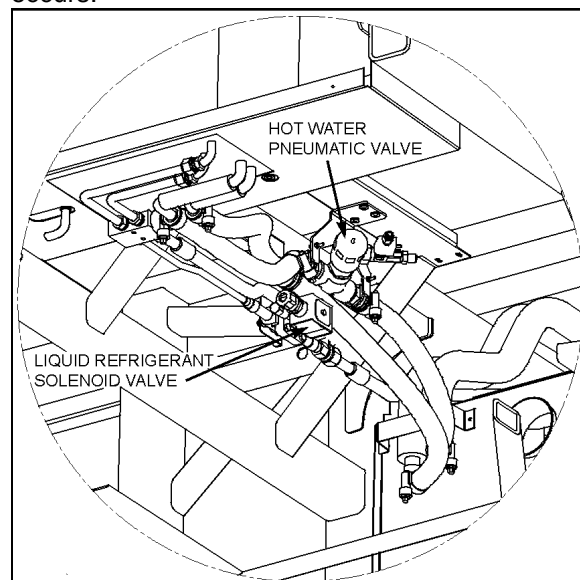

FIGURE 66: CEILING OF THE SPARE WHEEL COMPARTMENT
The flow of hot water to the driver's unit heater core is controlled by a normally-open (NO) pneumatic valve like. The valve, located at the ceiling of the spare wheel compartment (Figure 66), is designed so that the pilot solenoid valve,
2. Locate the normally open hot water pneumatic valve on the ceiling of the spare wheel compartment (Figure 66), disconnect its wiring connector, and then connect a 24-volt external power source, using jumper cables, to close valve.